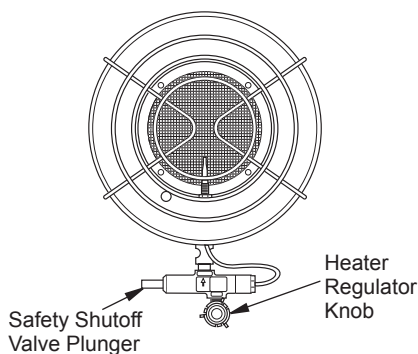

Figure 2
2. Turn the heater regulator knob counterclockwise to the "HI" position. See Figure 2.